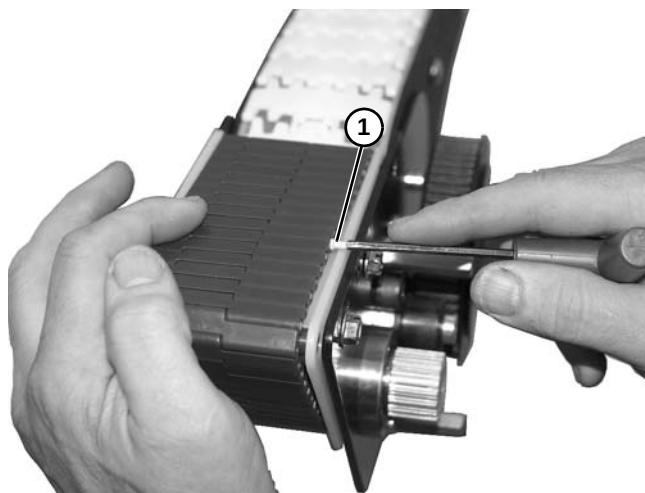

Figure 120
6. Bring ends of belt together and install pin (**Figure 120, item 1**).